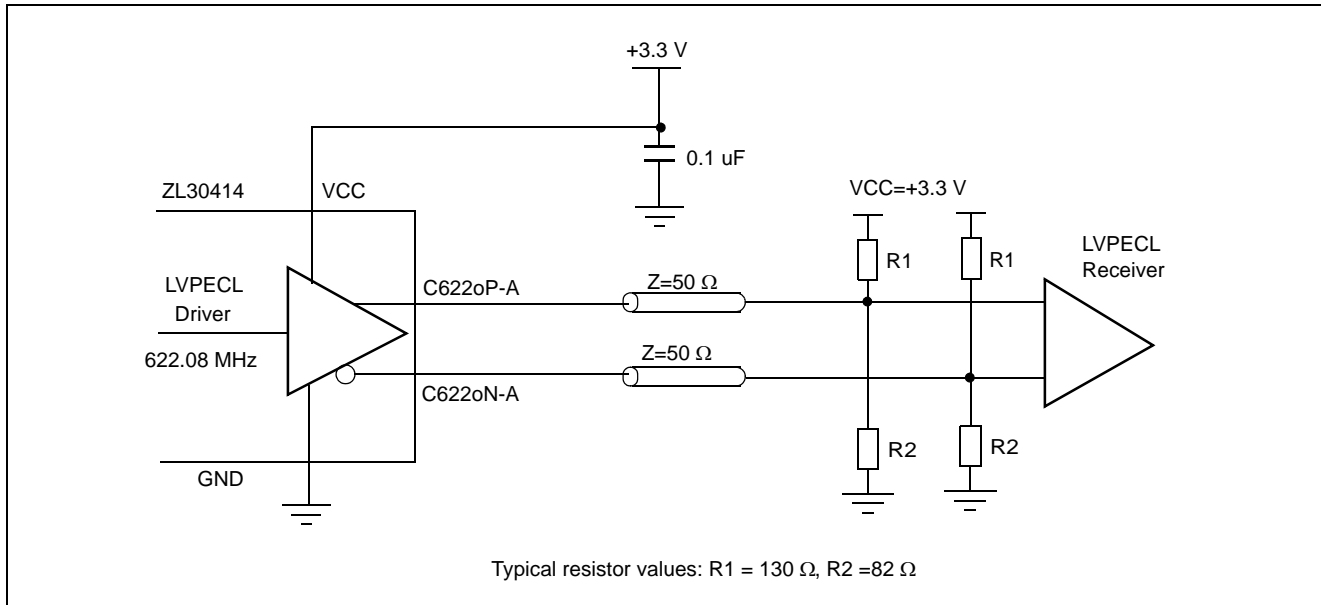

Figure 8 - LVPECL to LVPECL Interface
- Note 2: LVPECL outputs terminated with $Z_T = 50 \Omega$ resistors biased to $V_{CC}-2V$ (see Figure 8)